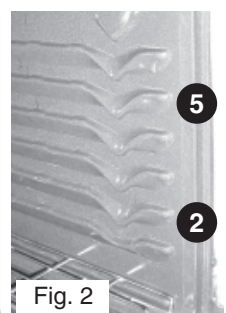

Fig. 2
3. When using 2 oven racks at the same time, place in positions 2 & 5 for best results (See Fig. 2).